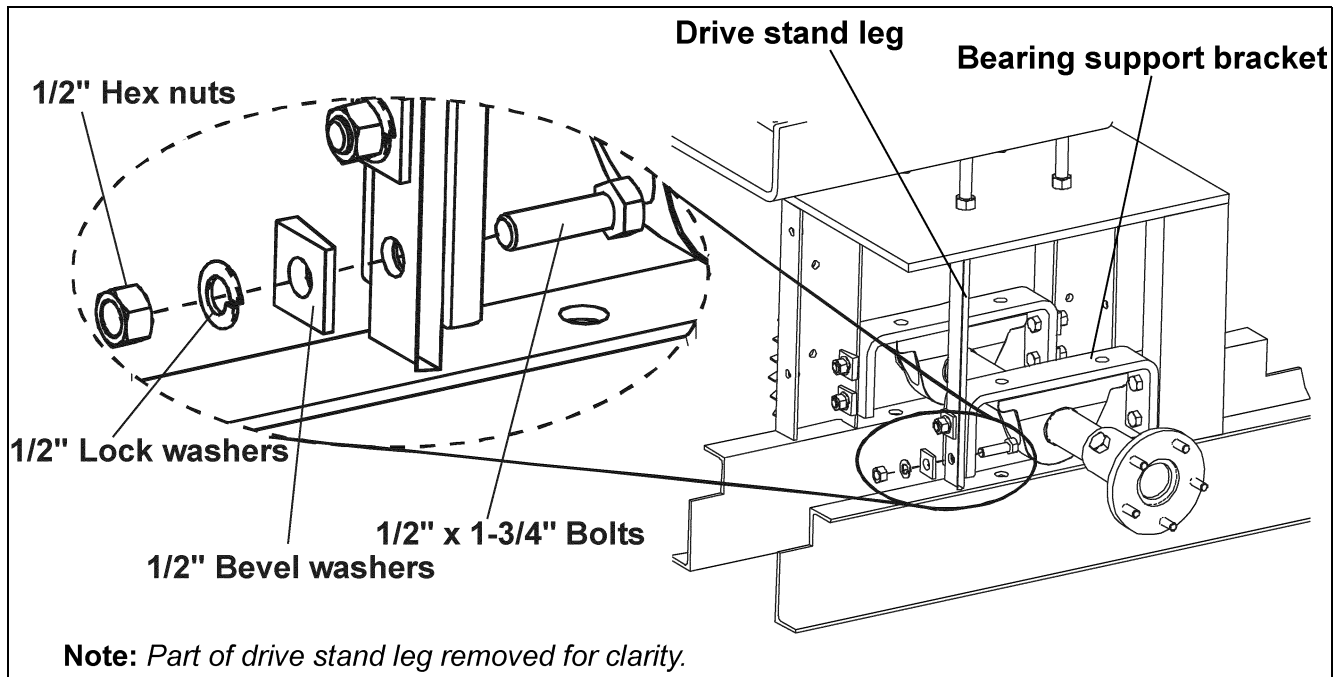

Figure 5K
E. Bolt the bearing support brackets to the legs of the tractor drive stand using 1/2" x 1 3/4" bolts, 1/2" lock washers, 1/2" bevel washers and 1/2" hex nuts. (See Figure 5K)